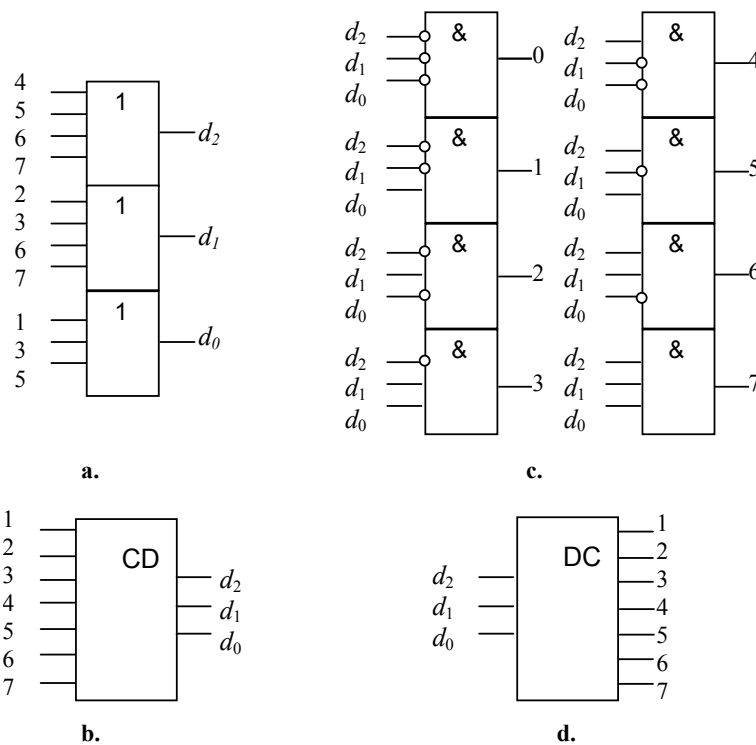

Fig. 2.67
**Encoders and decoders.** An *encoder* converts decimal numbers to a binary code. An example of unipolar binary 7/3 encoder is given in Fig. 2.67,a. Here, the decimal digits from 0 to 7 enter the associated inputs of the OR gates and the bits appear on their outputs. The circuit symbol of the encoder is shown in Fig. 2.67,b. For instance, when “1” enters the inputs “6”, the output code  $d_0 d_1 d_2$  becomes equal to “011”.